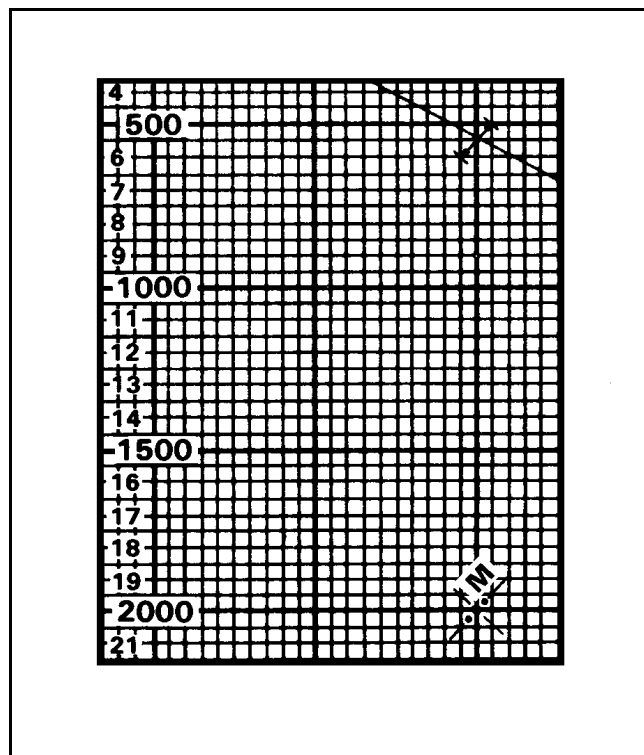

Figure 14-18. Alignment of each mortar with its impact point.
(6) Once the plots are on the plotting board, the computer determines the firing data for each mortar by aligning each mortar plot with its intended impact plot (Figure 14-18).